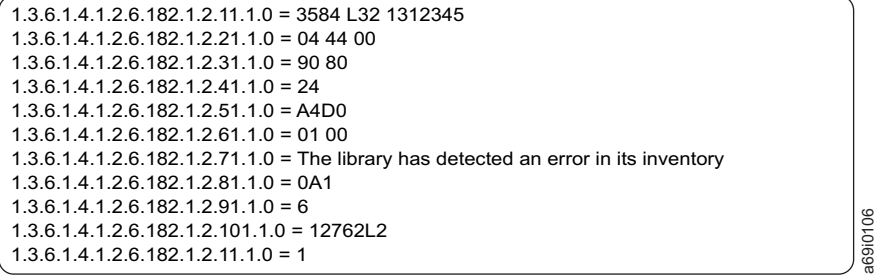

Figure 61. Sample SNMP trap. OIDs are on the left of the equal sign; OID fields are on the right. Values in the fields provide information about the problem.
1. Observe the trap when it is received by systems management software and identify its components. Figure 61 on page 306 shows a sample SNMP trap. The trap consists of object identifiers (OIDs) on the left of the equal (=) sign and OID fields on the right.
Table 36. Fields in an SNMP trap. The fields are listed in the order in which they occur in an actual SNMP trap. Use the sample values to interpret the meaning of the example trap in Figure 61 on page 306.
Table 36. Fields in an SNMP trap (continued). The fields are listed in the order in which they occur in an actual SNMP trap. Use the sample values to interpret the meaning of the example trap in Figure 61 on page 306.